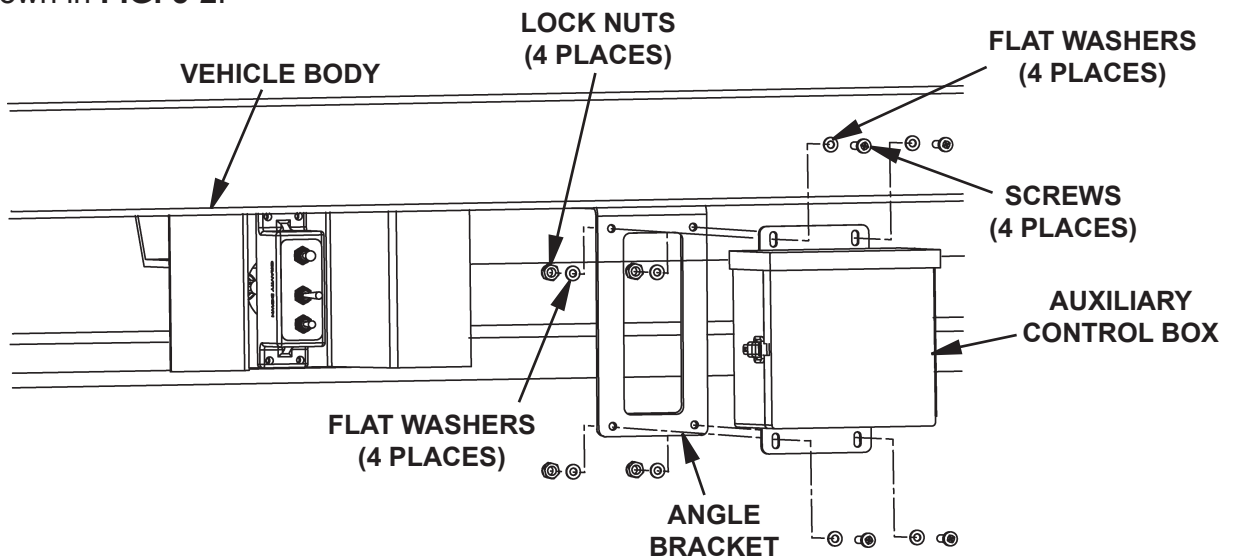

FIG. 5-2
3. Attach auxiliary control box (Kit item) to angle bracket with (4) 1/4"-20 screws, (8) 1/2" flat washers, and (4) 1/4"-20 lock nuts (Kit items) as shown in **FIG. 5-2**.